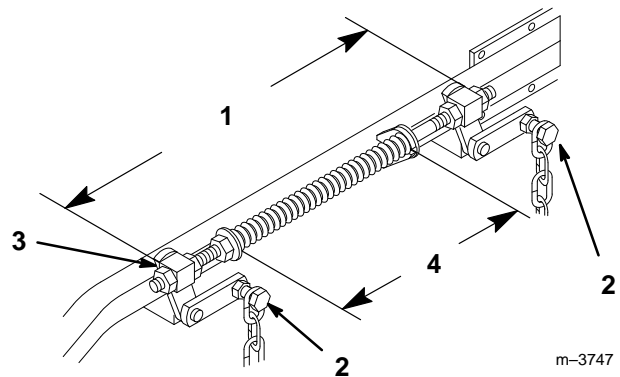

Figure 45
6. Loosen four (4) top chain bolts in slots. Check the length of the rod/swivel assemblies. Distance from outside of rear swivel to outside of front swivel should be 20-1/4" (514 mm) (Fig. 45). Make sure that all four swivels move freely in holes.
2. Springs are compressed so the distance between the two large washers should be 10-1/4" (260 mm) (Fig. 45).
3. Adjust by turning nut in front of each spring (Fig. 45). (clockwise will shorten spring, counter-clockwise will lengthen spring)